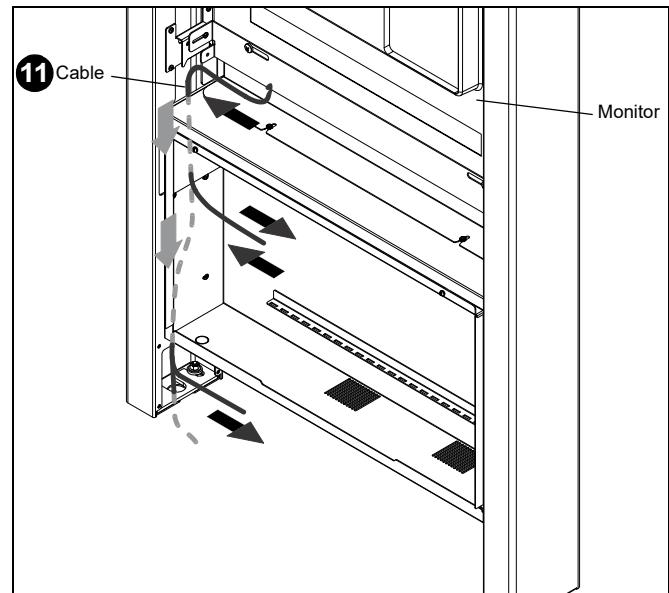

**Figure 8**
**NOTE:** The orientation of the upper interface bracket (M) is opposite to the lower interface bracket (L).
8. Tilt the top edge of the monitor into the kiosk frame (A) and rest the mounting buttons on the upper interface bracket into the recessed areas in upper interface plates.
9. Rotate the bottom edge of the monitor down into the kiosk frame until the long slots in the lower interface brackets line up with the holes in lower interface plates. (See Figure 8)